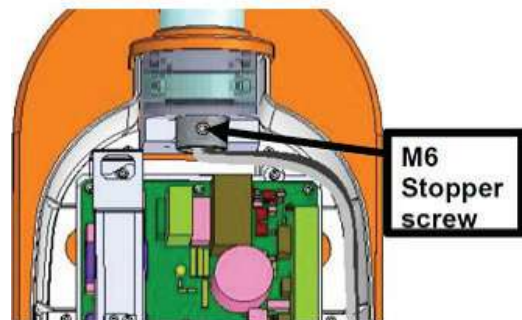

Figure 35
- Fix the M6 stopper screw to the straight arm shaft using 5mm Allen key as shown in Figure 35 .